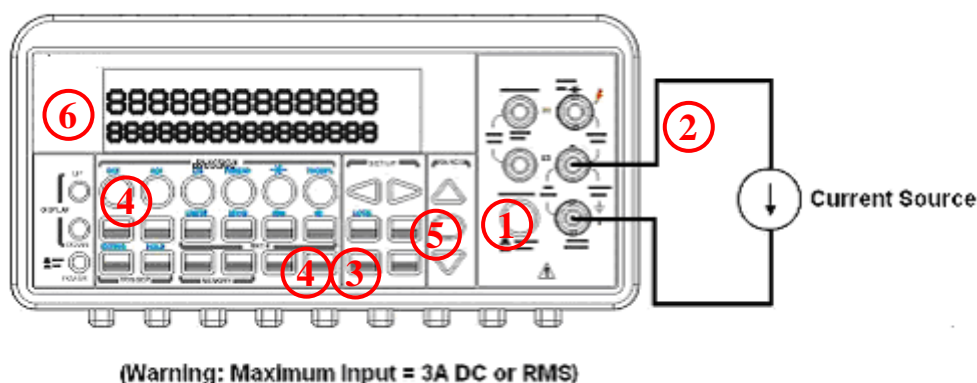

Figure 3-4
The ranges for DC current measurements in DL-2060 are 10mA, 100mA, 1A and 3A. For AC current measurements, the range is 1A with a sensitivity of 1 μ A to 3A AC-Coupled TRMS with a sensitivity of 10 μ A. **Figure 3-4** and **3-5** show you how to measure DC/AC currents in DL-2060.
- ① Selects input signal connections on front or rear panel.
- ② Connect the test leads to the terminals as shown in **Figure 3-4**.
- ③ Set RESOLUTION of DCI (Refer to 3.1.3), BANDWIDTH of ACI (Refer to 3.1.2.1) or skip this step if default is to be used.
- ④ Press SHIFT+DCI(DCV) or SHIFT+ ACI(ACV) buttons for DCI or ACI measurement.
- ⑤ Select the auto-range function by pressing AUTO button on the front panel or use \triangle and ∇ buttons to select desired range.
- ⑥ Connect test leads to your source signal and observe the reading shown on the display. If the input signal is greater than the allowed range, an overflow message "OVLD" will be displayed.